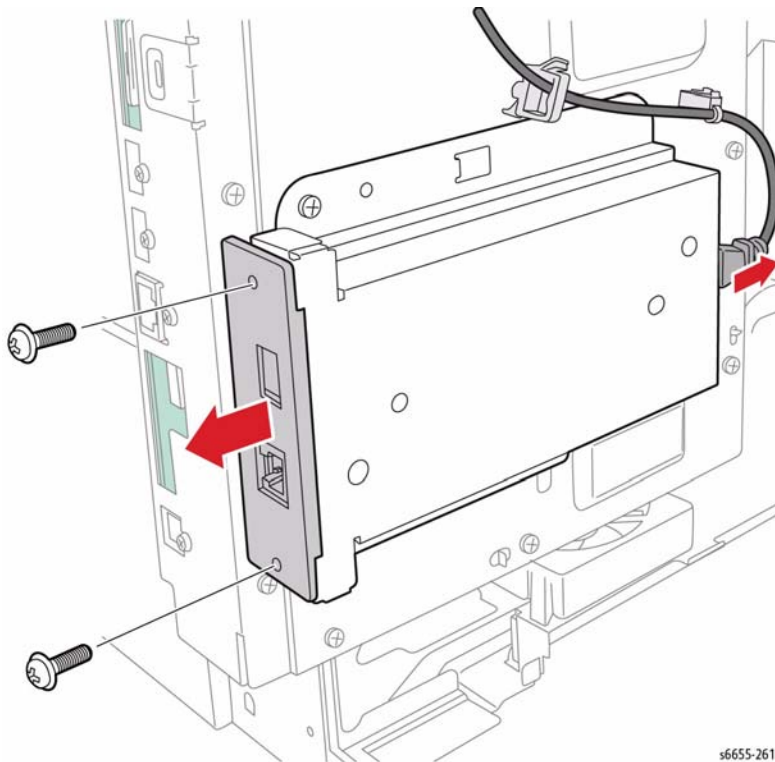

Figure 1 Remove the FAX Board
3. Refer to Figure 1 to locate and remove two screws (silver, 6 mm) that secure the FAX Board to the Fax Board Bracket.